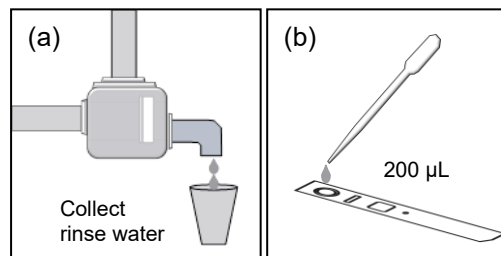

Fig. 3. Test steps for rinse water sample
- Collect rinse water and referred to as **Test Solution** (Fig. 3 (a)).
- Place a **Test Stick** horizontally and apply 200 µL of the **Test Solution** to the sample application slot (Fig. 3 (b)).